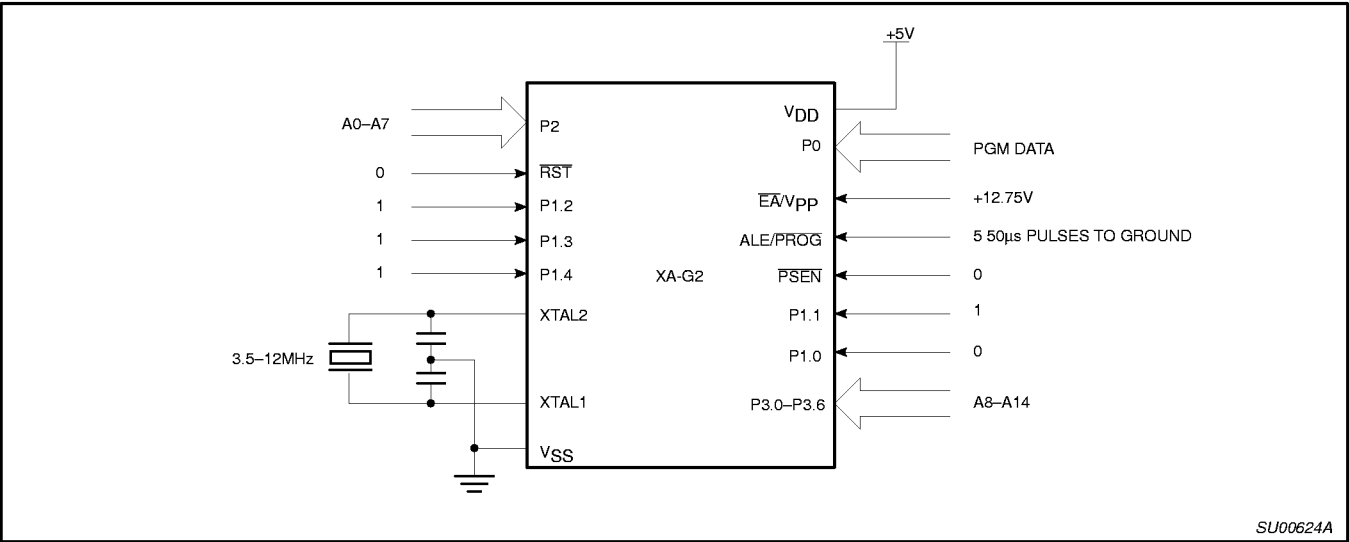
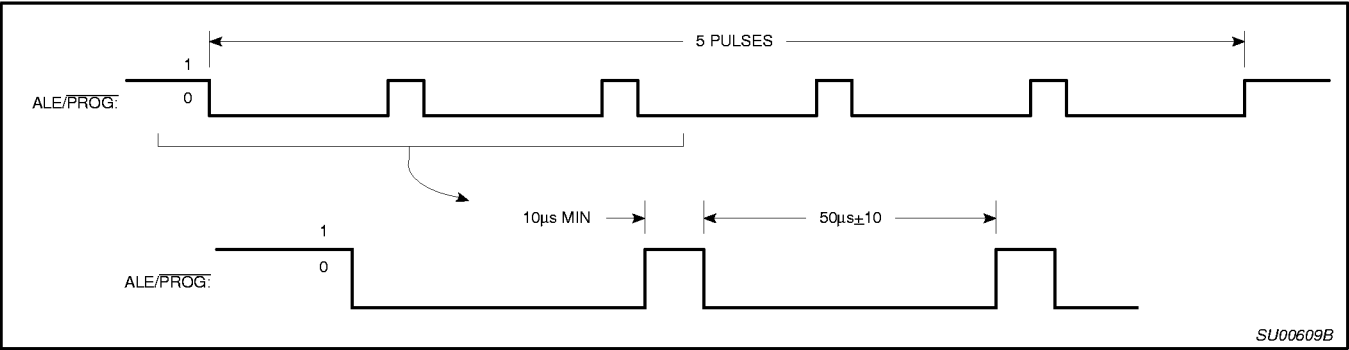
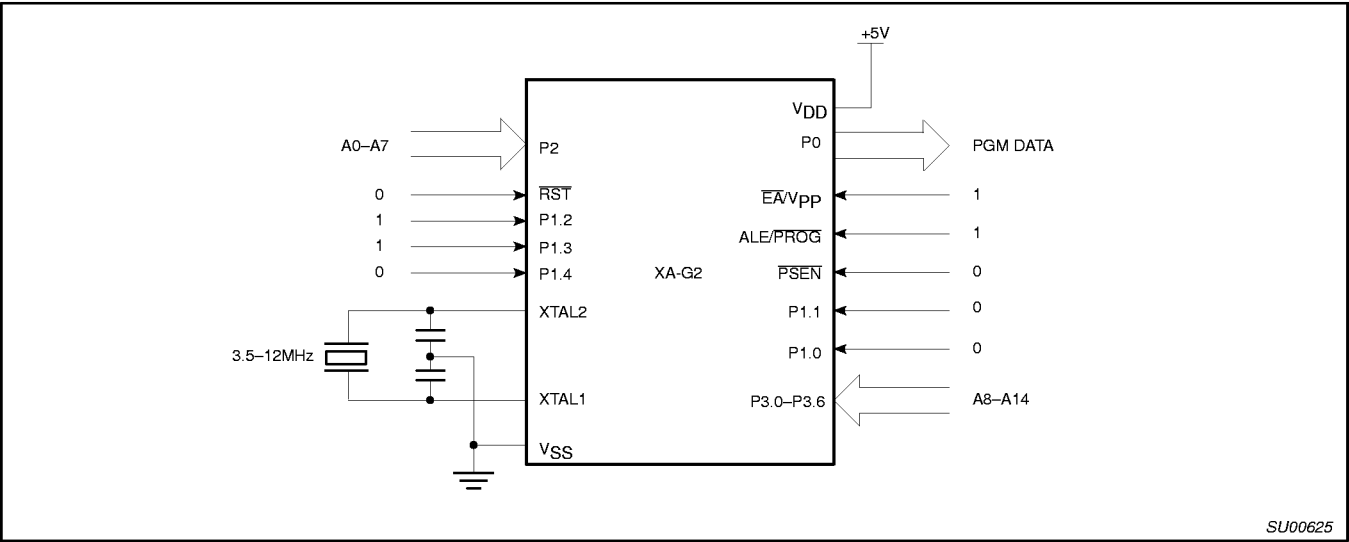

Figure 31. Programming Configuration for XA-G2
Figure 32. PROG Waveform
Figure 33. Program Verification for XA-G2
Table 6 shows the logic levels for reading the signature byte, and for programming the code memory and the security bits. The circuit configuration and waveforms for quick-pulse programming are shown in Figure 31. Figure 33 shows the circuit configuration for normal code memory verification.
The setup for microcontroller quick-pulse programming is shown in Figure 31. Note that the XA-G2 is running with a 3.5 to 12MHz oscillator. The reason the oscillator needs to be running is that the device is executing internal address and program data transfers.
The address of the EPROM location to be programmed is applied to ports 2 and 3, as shown in Figure 31. The code byte to be programmed into that location is applied to port 0. RST , $PSEN$ and pins of port 1 specified in Table 6 are held at the 'Program Code Data' levels indicated in Table 6. The $ALE/PROG$ is pulsed low 5 times as shown in Figure 32.
If security bits 2 and 3 have not been programmed, the on-chip program memory can be read out for program verification. The address of the program memory locations to be read is applied to ports 2 and 3 as shown in Figure 33. The other pins are held at the 'Verify Code Data' levels indicated in Table 6. The contents of the address location will be emitted on port 0.
- * FOR PROGRAMMING CONDITIONS SEE FIGURE 32.
FOR VERIFICATION CONDITIONS SEE FIGURE 33.